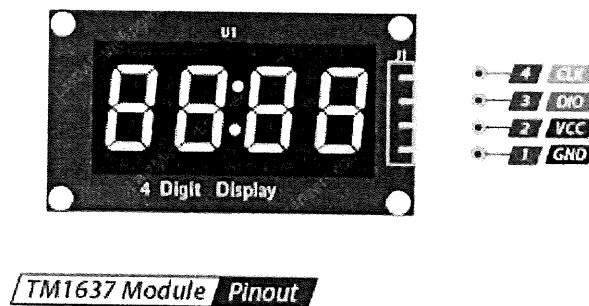
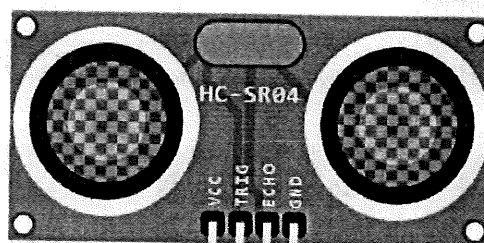

Figure 4: TM1637 module
Figure 5: SR04 ultrasonic distance sensor
- b) Using four (4) 7-segment displays in TM1637 module, create an application which reads data from SR04 ultrasonic distance sensor in centimeter, then display it on 7 segments. Only integer value is displayed.
- i) **Produce** the schematic diagram for the connection between Pi Pico, SR04 ultrasonic distance sensor and TM1637 module. Refer figure 4 for Tm1637 module, figure 5 for SR04 ultrasonic distance sensor. (15 marks)